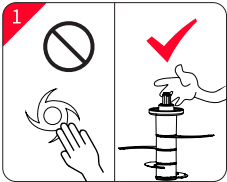

Fig. 1
- 1 Care should be taken when handling the sharp cutting blades, emptying the bowl and during cleaning. (Fig.1)